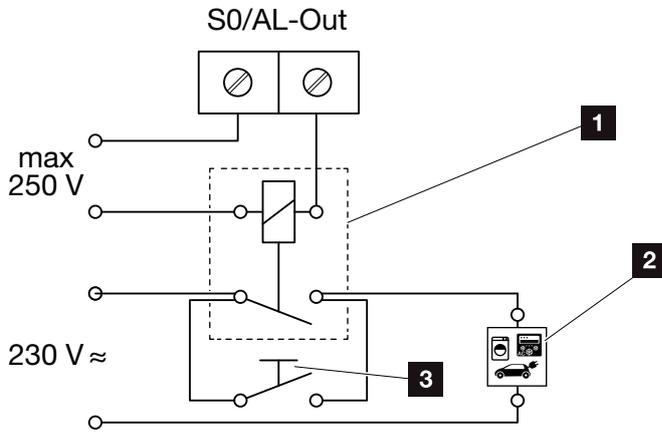

Fig. 61: Electrical connection for self-consumption
1. Properly connect the external load relay to the terminal S0/AL-Out  **Fig. 61**